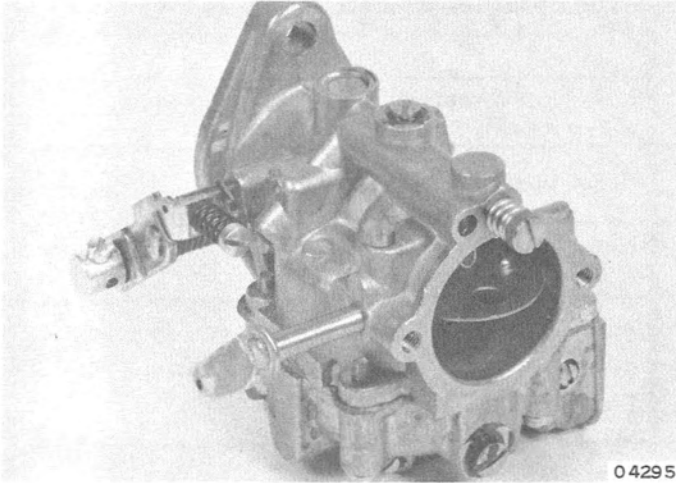

Figure 1. "MD" Series Carburetor
1. The "MD" series carburetor has been kept basically simple for ease of service (Figure 1)
fire unevenly because of an over-rich mixture. (Figure 1)